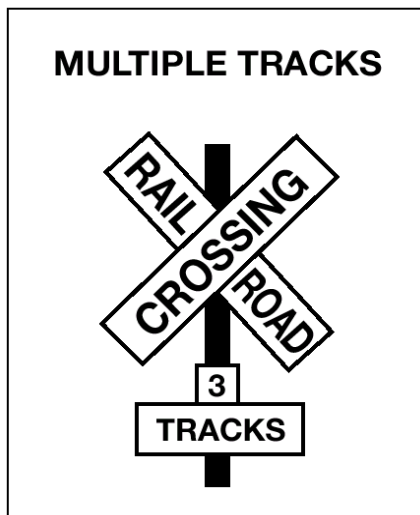

Figure 2.17
**Crossbuck Signs.** This sign marks the grade crossing. It requires you to yield the right-of-way to the train. If there is no white stop line painted on the pavement, vehicles that are required to stop must stop no closer than 15 feet or more than 50 feet from the nearest rail of the nearest track. When the road crosses over more than one track, a sign below the crossbuck indicates the number of tracks. See Figure 2.17.